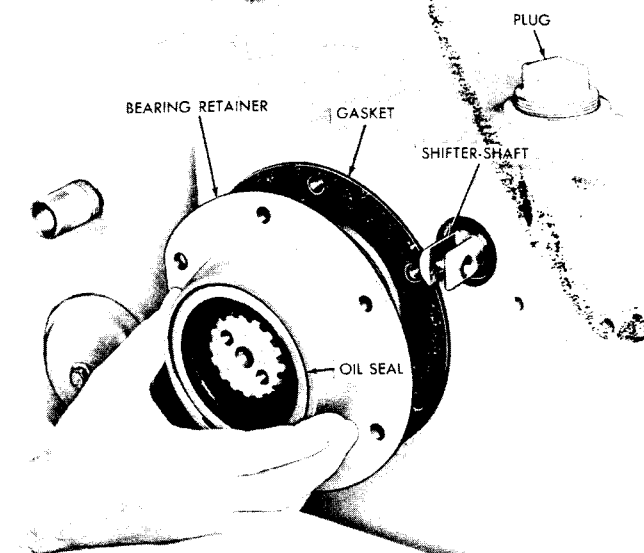

Fig. VII-8. Installing front-output shaft bearing retainer S2442
(22) Install the output disconnect shifter shaft (by rotating it clockwise) and access plug (fig. VII-8).
(23) Install the bearing retainer gasket (fig. VII-8).
(24) If the oil seal was removed from the retainer (fig. VII-8), install a new seal. Press the seal, spring-loaded side first, into the front of the retainer. On models which have a heavy-duty output shaft, press the seal until it seats lightly in the retainer. When a standard output shaft is used, press the seal until it is approximately in the center of the seal bore depth. If a cap 6 (A, foldout 11) was removed, press a new cap into the retainer until it bottoms.
(25) Install the bearing retainer, aligning the holes in the retainer with those in the housing (fig. VII-8).